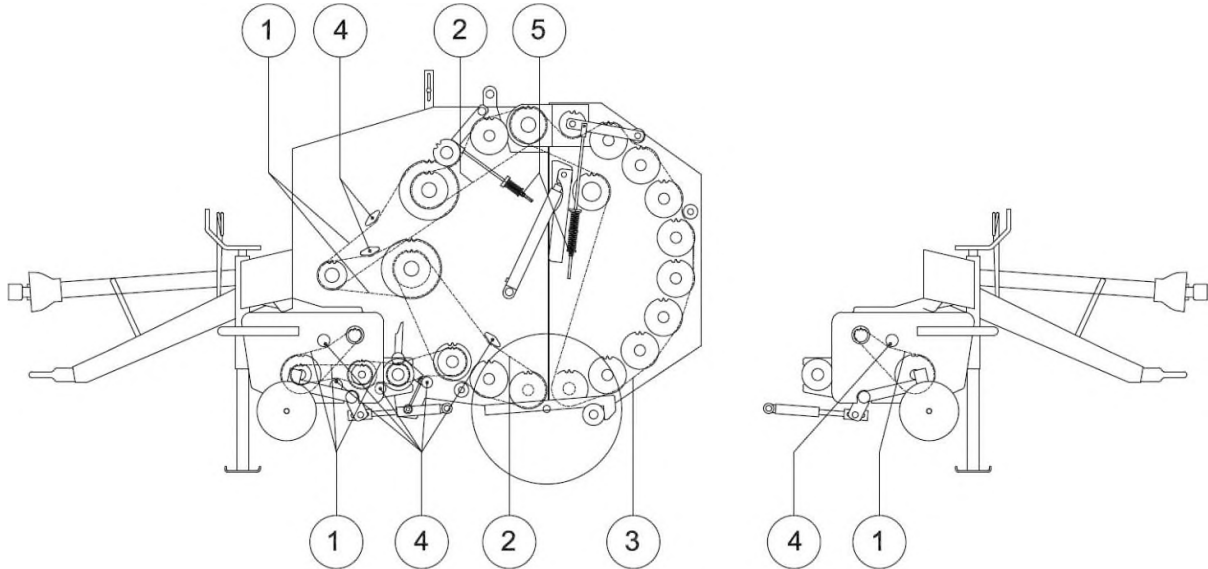

Figure 32. The drive unit
The drive-unit diagram is shown in figure 32. The chains used for the drive are marked with items 1, 2 and 3. Carry out the adjustment of the chain tension with tensioners (4) or adjusting bolts with the spring (5), respectively.